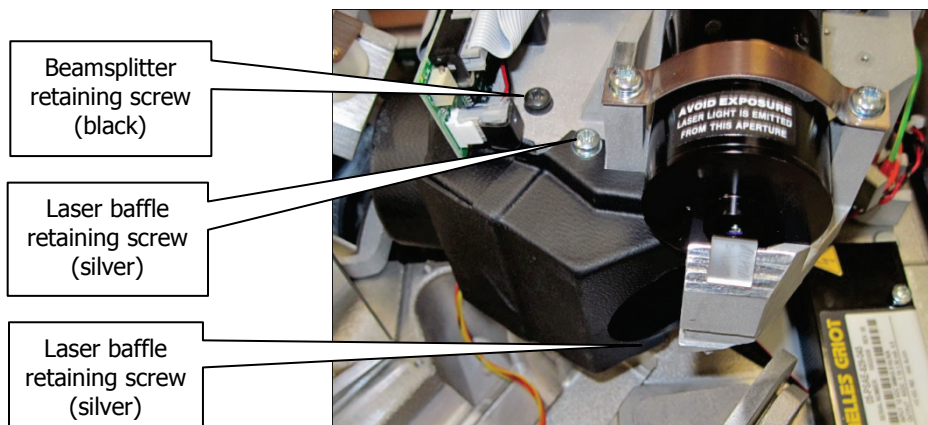

Figure 44 Laser baffle
2. Unscrew the laser baffle retaining screws and remove the laser baffle (Figure 44).